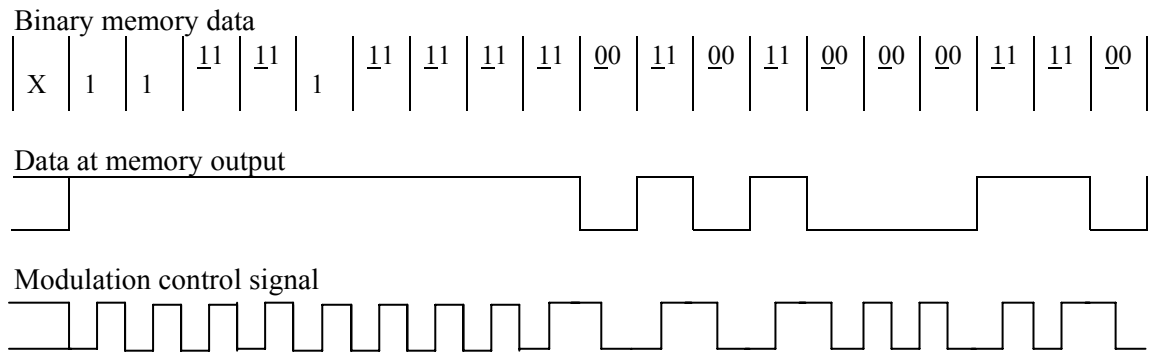

Figure 3 - Manchester code
- 1) There is always a transition from ON to OFF or from OFF to ON in the middle of bit period. At the transition from logic bit "1" to logic bit "0" or from logic bit "0" to logic bit "1" the phase change. Value high of data stream (signal Modulation control) presented below modulator switch OFF, low represents switch ON (Figure 3).